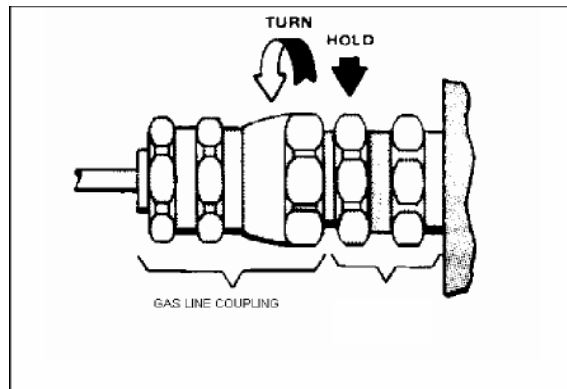

Figure 6-2
7. Turn the mains switch of the CHHC to “|” (ON). *VERIFY* that the displayed temperatures, shown in °C, are approximately -260°C and -220°C. This temperature range will vary based upon how long the CHHC has been turned off.
8. Turn the heater-power switch on the CHHC to “|” (ON). The heat station warm-up time is approximately 45 minutes.
10. *Loosen* the gas-line coupling from the coldhead fitting by holding the fitting on the cold head with one wrench, while loosening the gas-line nut on the coupling *one turn* with the other. **Use two wrenches.** See *Figure 6-2*. Note the “HOLD” location illustrated.